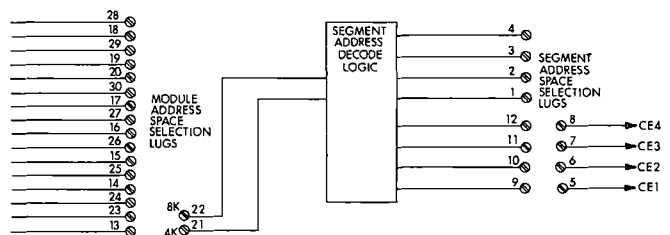
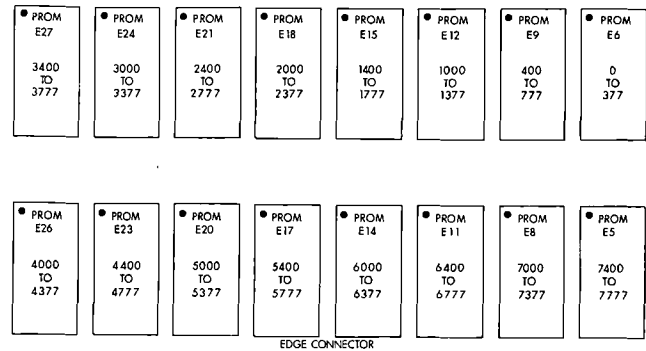

FIGURE 3. DESIGNATIONS FOR SPLIT LUGS PROVIDED FOR ADDRESS SPACE ASSIGNMENT
FIGURE 4. PHYSICAL LOCATION AND OCTAL ADDRESSES OF PROM CIRCUITS ON M7345 MODULE
1. By jumper-connecting specific module address space selection lugs (see Figure 3) which are part of a total set of split lugs provided on the module for the explicit purpose of address space assignment.
Within the module, each 1K segment can be assigned to one of the four 1K address spaces in a 4K space or in an 8K space through appropriate connection of the segment address space selection lugs (see Figure 3). Note that this level of address space selection must be made with jumpers since the equivalent split-lug points are not brought out to the edge connector. The actual set of 256 words addressed within a 1K segment is determined by the physical position of the PROM circuit on the board (see Figure 4). In order to clarify the manner of assigning a read-only memory module to a specific address space, a series of examples is presented which relate specific lug-to-lug connections to address space assigned. These examples require reference to Figure 3 and Table 1.
Table 1 shows the lug-to-lug and corresponding pin-to-pin connections for a 64K address space. However, the examples presented are, for purposes of clarity, concerned only with the first or low-order 16K address space. In principle, these examples are applicable throughout the full 64K address space, and differ only in the specific connections made between lugs 21 and 22 and the remaining Module Address Space Selection lugs (see Figure 3).